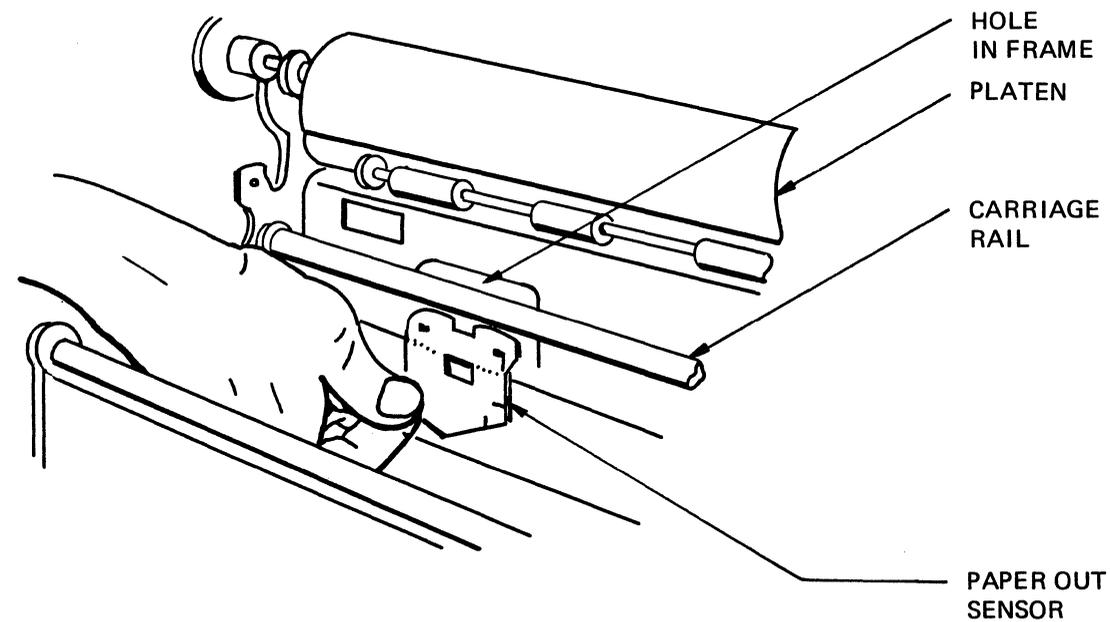

Figure 4-14 Paper Out Sensor Installation for the Bottom Feed Guide
- e. Feed the sensor cable through the hole (see Figure 4-14). Push the paper out sensor into the hole until a distinct snap is heard.